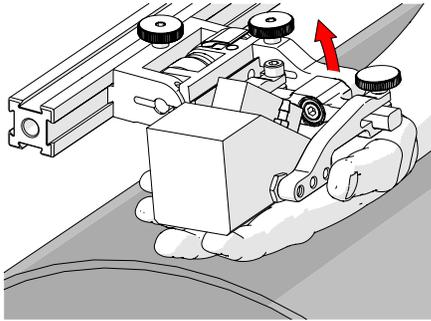

Fig. 155 - Lift to latched position
1. Ensure probe holder is in latched, upper position (Fig. 155). If the probe holder is already latched, it will only move within the slip joint adjustment range and have no spring tension.
1. Ensure the probe holder is in the upright latched position (Fig. 155).